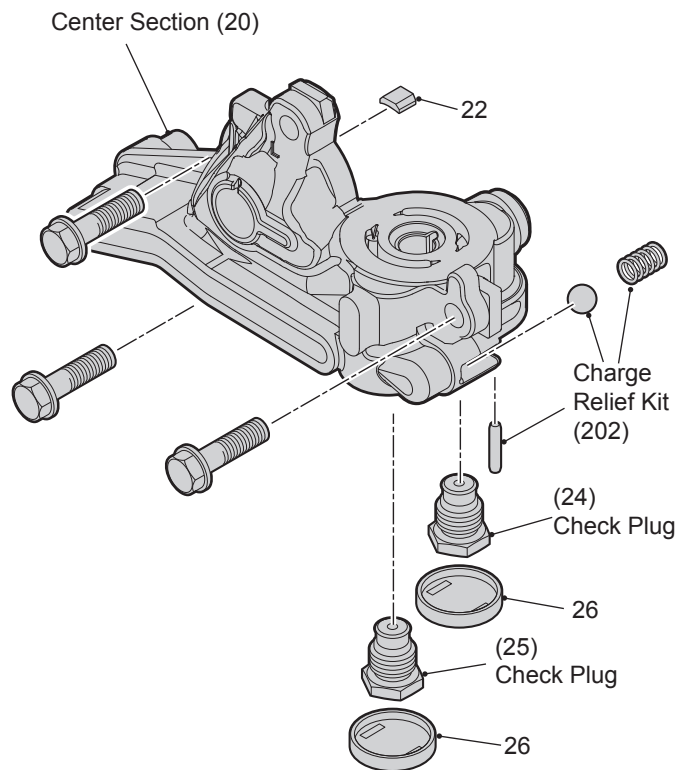

Figure 24, Center Section Kit (201)
Refer to Figure 24
1. Remove the bypass plate (22) from the center section.
2. Remove the plug seals (26) and discard. Refer to figure 24, on page 32.
In order to gain access to the check plugs (24 & 25), it is necessary to remove the plug seals (26). This is accomplished by inserting a seal hook or puller into, and through, one of the insertion points (*rectangular recesses*) on the plug seal, refer to figure 24. After successfully removing the plug seals, discard and replace with new seals.